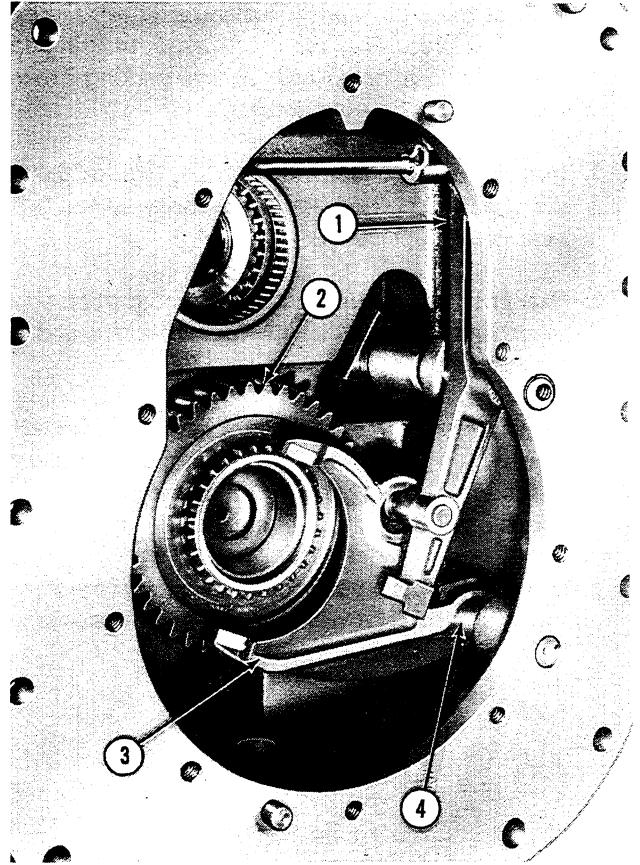

Figure 21
10. Remove the high/low shift rail (4), Figure 21, from the case and remove the shift fork (3) from the parking brake pawl (2).